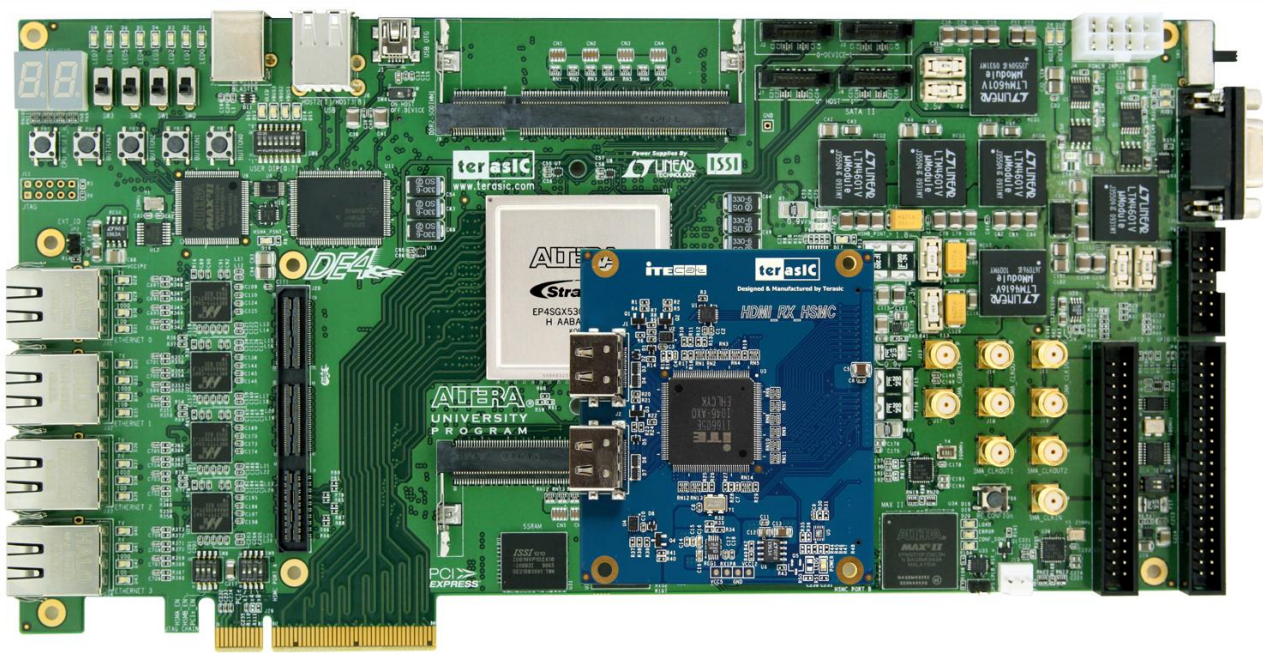

Figure 1-2 Connect HDMI\_RX\_HSMC daughter board to DE4 board
**Figure 1-2** shows a HDMI\_RX\_HSMC daughter board connected to the HSMC connector of DE4. Due to high speed data rate in between, users are strongly recommended to screw the two boards together.